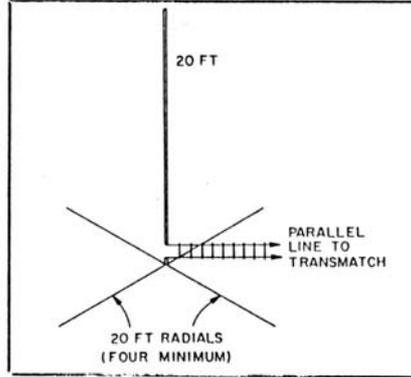

Fig 5—WB6AAM's multiband vertical-monopole antenna. Estimated gains for various amateur bands are shown in Table 2.
□ The antenna in Fig 5 is based on a multiband vertical antenna described by Arthur S. Gillespie, Jr, W4VON, in the eighth edition